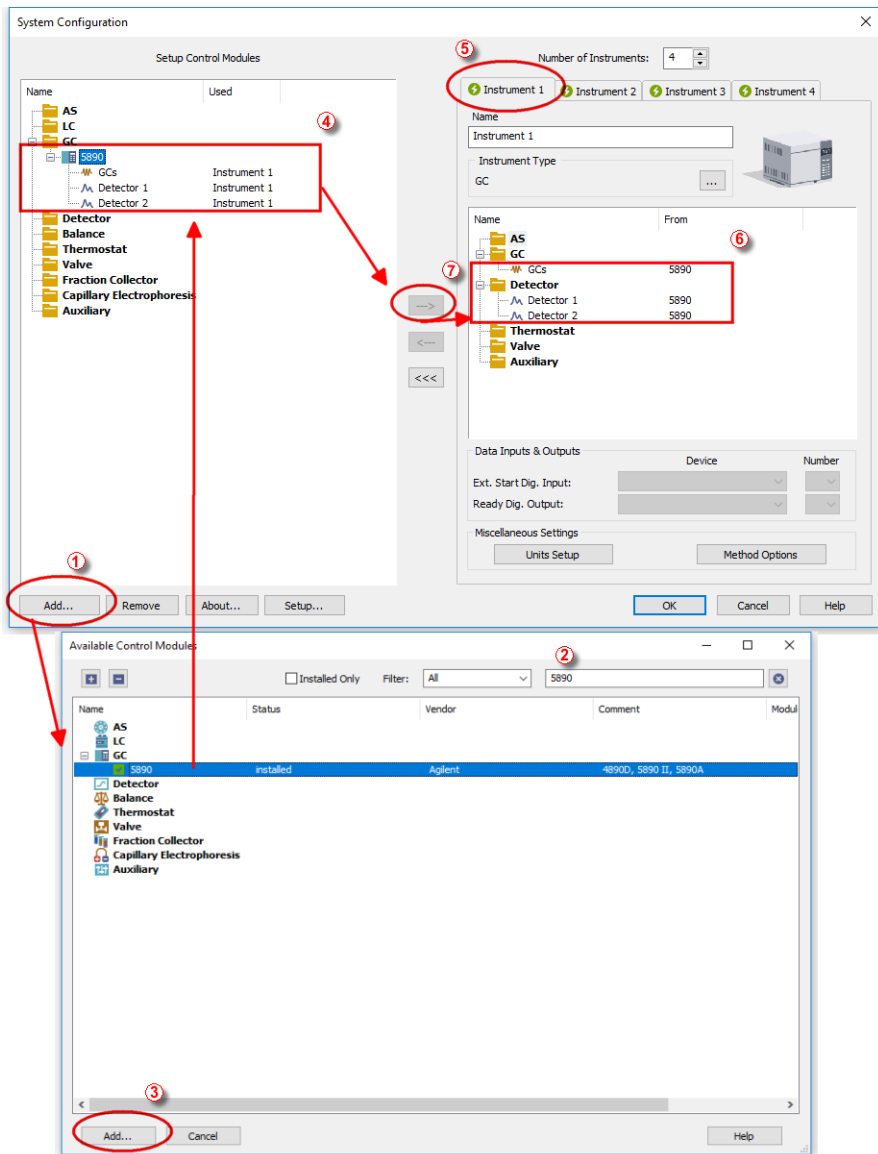

Fig 4: System Configuration
- Press the **Add** button ① (see **Fig 4** on pg 7.) to invoke the **Available Control Modules** dialog.
- You can specify the searching filter ② to simplify the finding of the driver.
- Select the **5890** and press the **Add** ③ button.